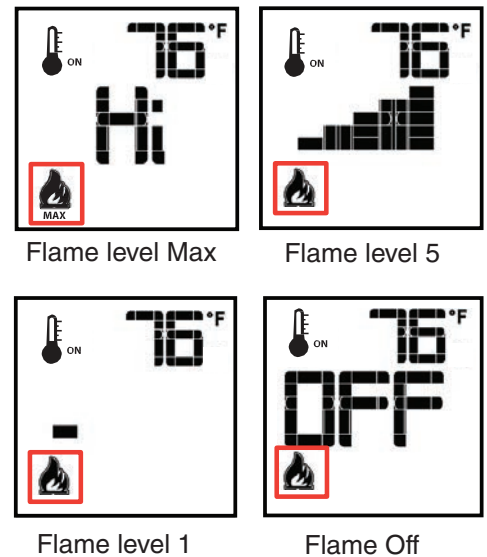

Figure 70: Flame level control.
The Proflame 2 has six (6) flame levels. With the fireplace turned on, and the flame level at maximum height, press the down arrow key on the remote once to reduce the flame height by one step until the flame is turned off (Figure 70).